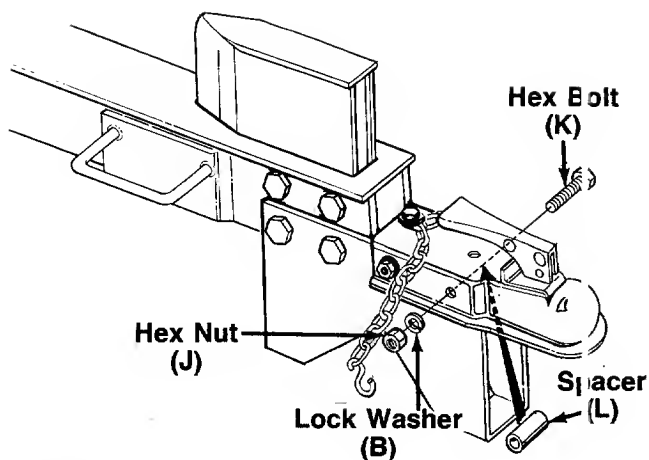

FIGURE 6.
2. Place the hitch in position on the beam stand as shown in figure 6. Place spacer (L) inside the beam stand. Insert hex bolt (K) through hitch, beam stand and spacer. Secure with lock washer (B) and hex nut (J). Assemble second bolt in same manner. Tighten both bolts and nuts securely.